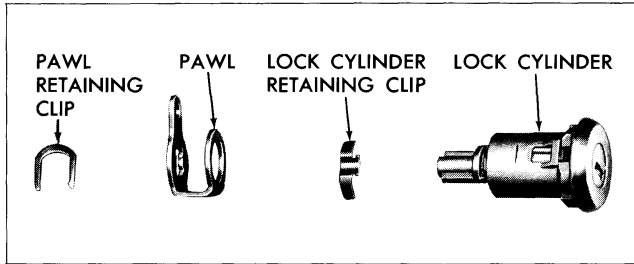

Fig. 3-23 Door Lock Cylinder
2. Remove pawl retaining clip, pawl and lock cylinder clip (Fig. 3-23).